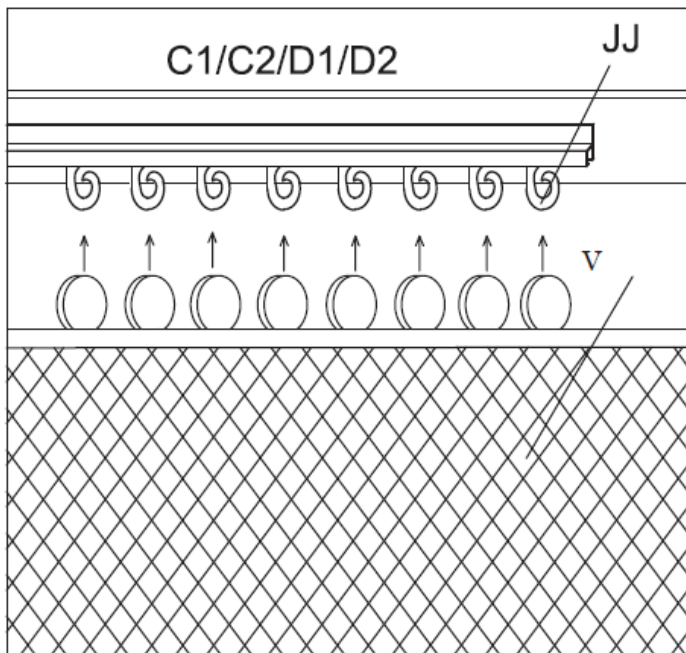
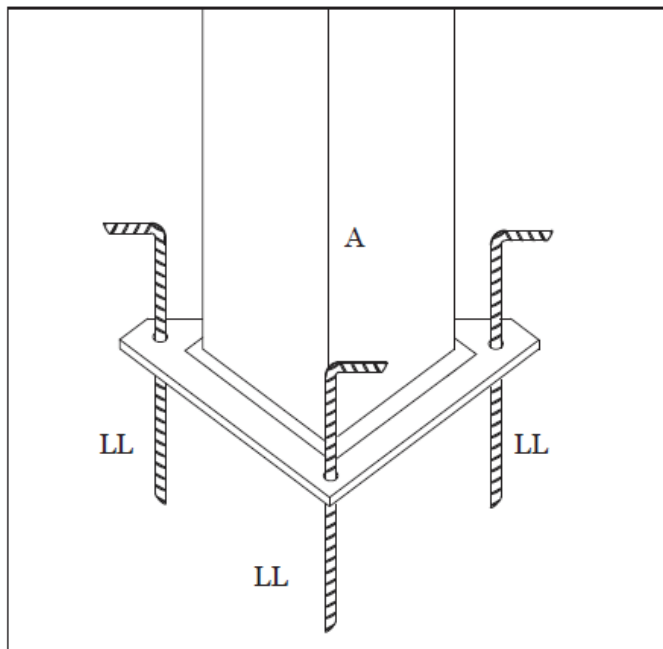
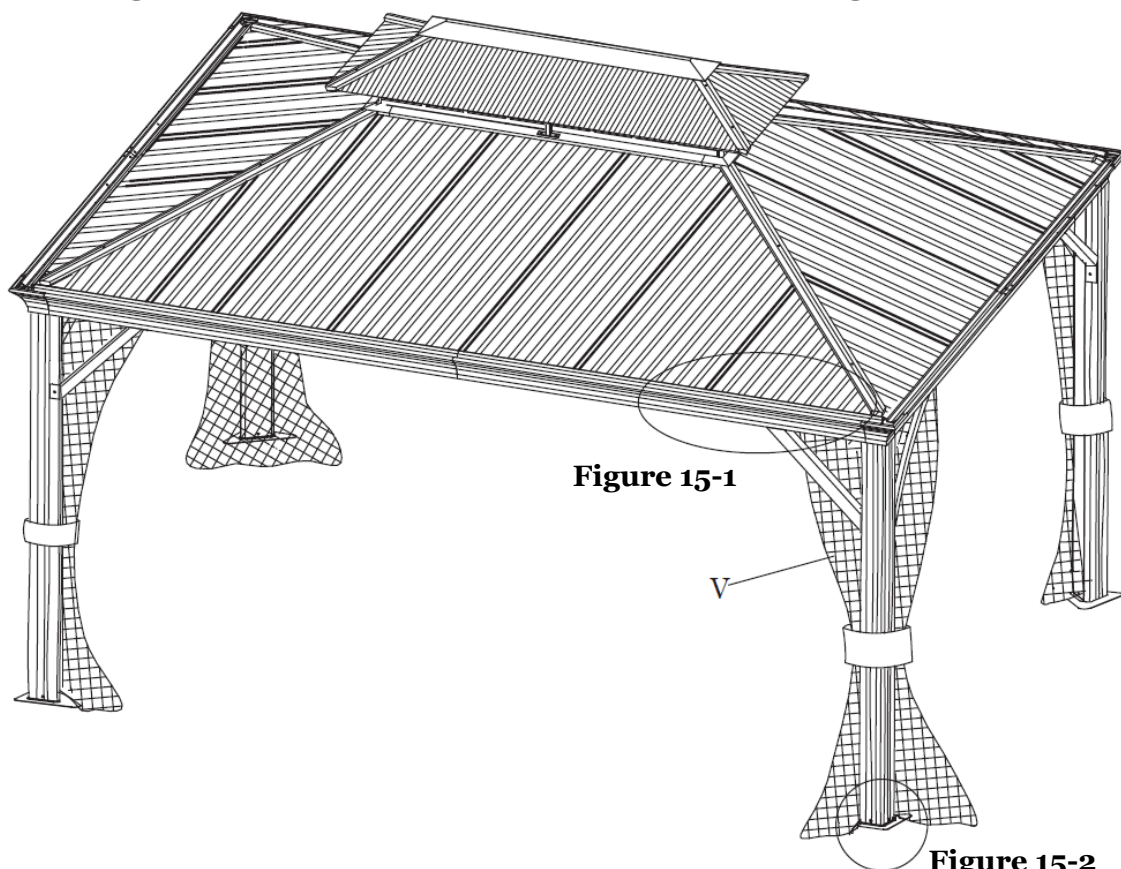

Figure 15-1
Figure 15-2
Figure 15-3
Step 15A: Attach the Mosquito Net (V) to the Mosquito Net Hooks (JJ). Repeat for all sides. See Figure 15-1 and Figure 15-3
Step 15B: Secure the gazebo by inserting the Ground Stakes (LL) into the Base Plates (B). Repeat for all corners. See Figure 15-2 and Figure 15-3.